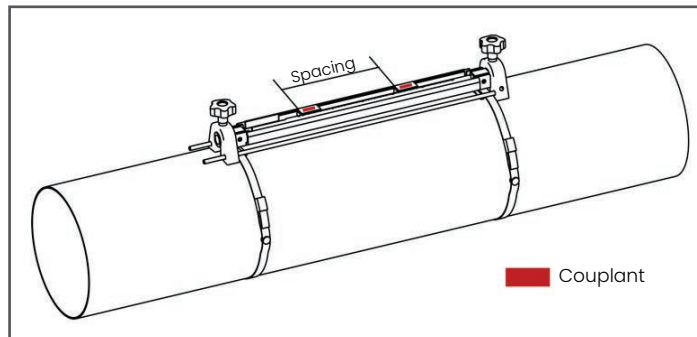

Figure 12: Set Transducer Spacing and Apply Couplant
- b. Set the transducers to the spacing calculated by the meter. If you are using solid couplant, apply it to both transducer faces. Then, rotate the transducers back onto the rail (see Figure 12 below).